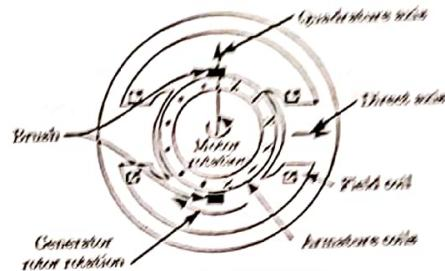

Fig. 2.1.2. DC machine.
- When the armature conductors conduct current as shown in Fig. 2.1.2, a magnetic field is induced vertically upwards along the quadrature axis.